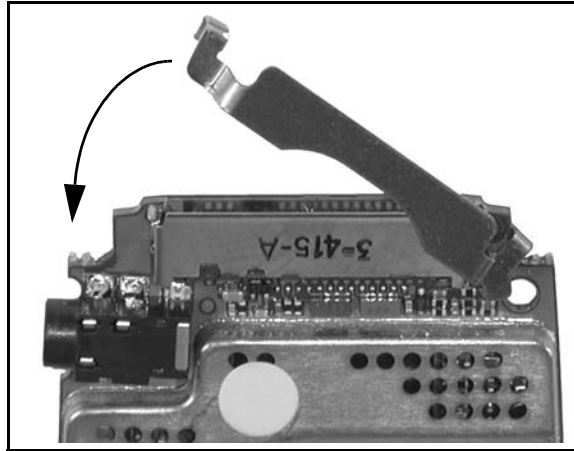

Figure 7-21.
1. Attach one end of clip onto Accessory Connector (see Figure 7-21).